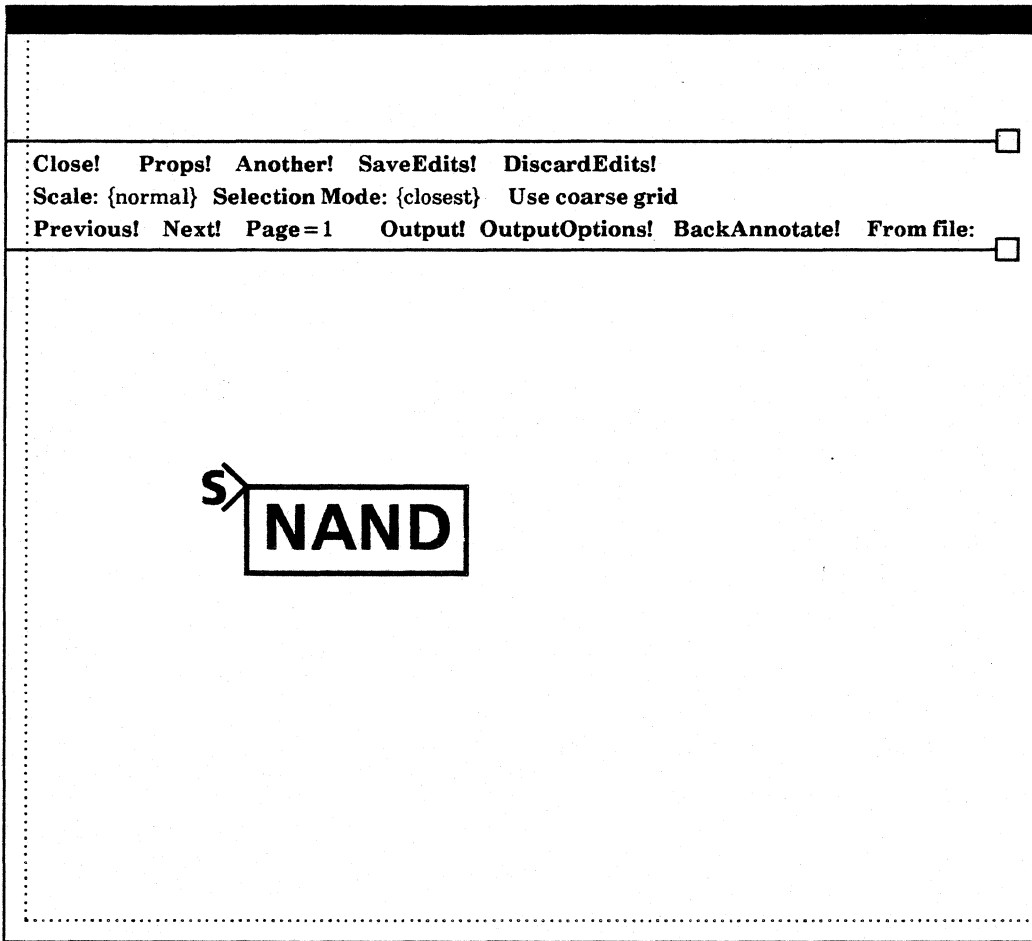

Figure 2.9
- 3) The system automatically selects (video-inverts) the text as you type it. See figure 2.9.